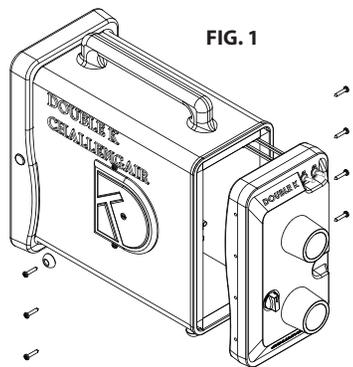
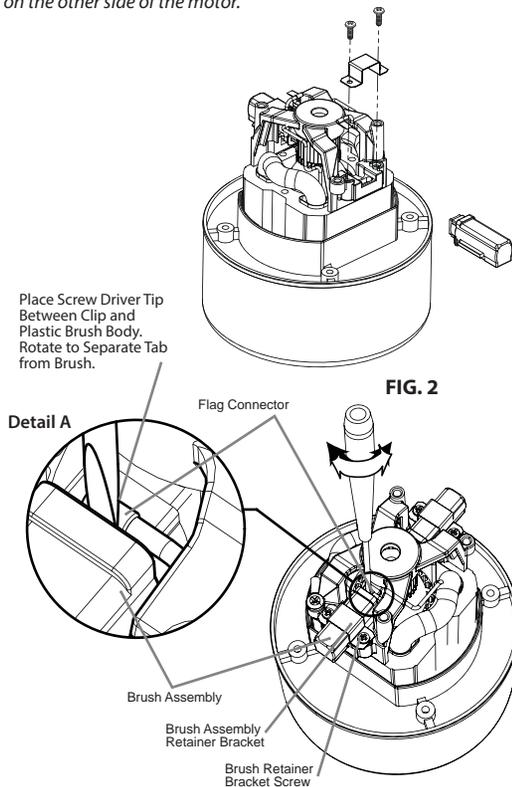

FIG. 1
FIG. 2
**To Check and/or Replace Brushes:** (a) Unplug electrical cord from wall outlet. (b) Detach your front plate by loosening the fastening screws. (Fig. 1) . (c) Remove front plate and set aside (motors and brushes are now visible and accessible). (Fig. 2) . (d) Find the flag connector on the top of the brush assembly. There is a wire leading to this connector. (e) Place a flathead screwdriver with a fine tip between the flag connector and the plastic brush housing. (f) Rock the screwdriver back and forth and gently wedge the flag connector out of the brush assembly. (g) Loosen the two brush assembly retainer bracket screws. (h) Remove the brush assembly. (i) Replace the brush assembly with the new one, making sure that the small tab on the bottom is fitted onto the corresponding slot on the motor frame. (j) Replace the brush assembly retainer bracket and tighten the screws which hold it in place. (k) Attach the flag connector to the new brush in the same position as the previous brush. (l) Repeat these steps for the brush on the other side of the motor.